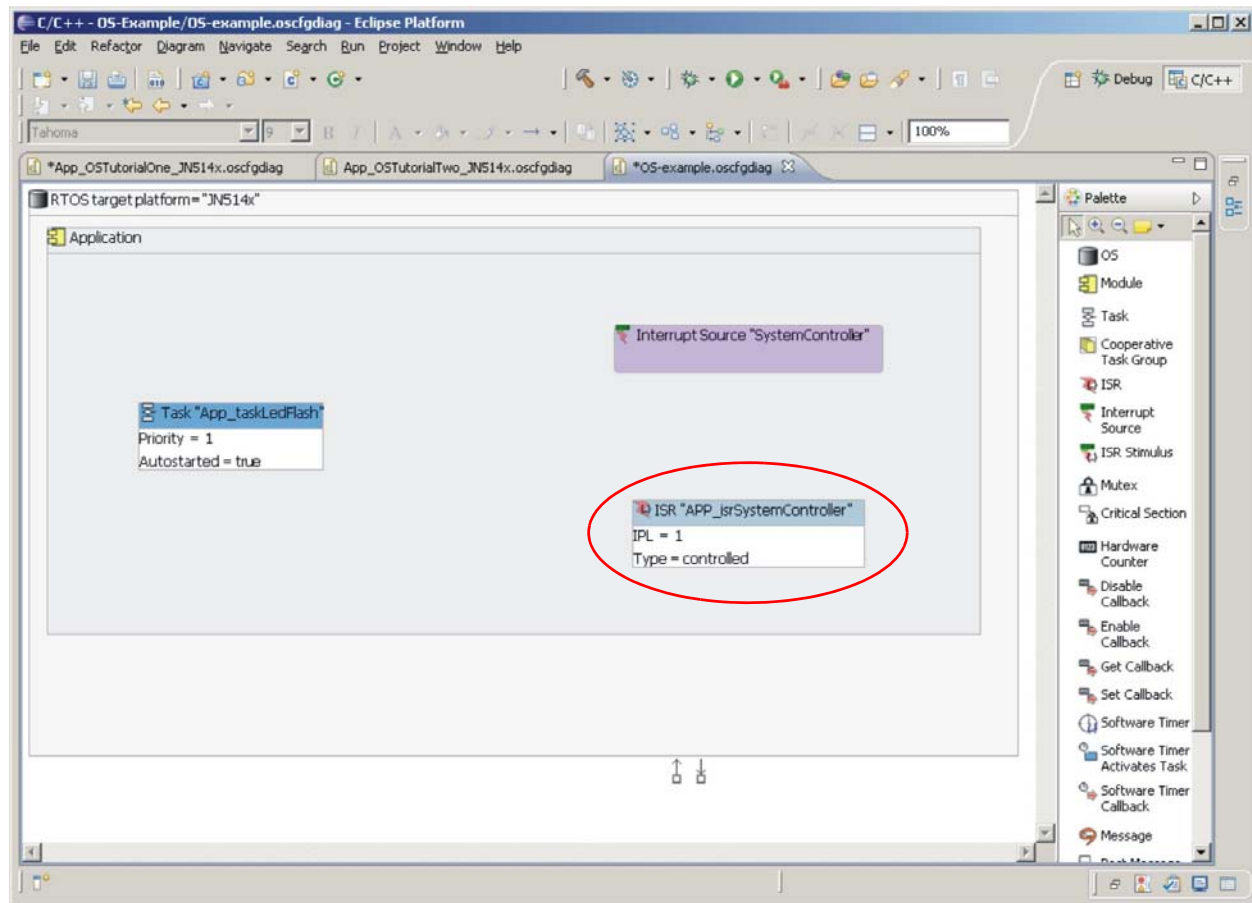

Figure 15: ISR Element
Step 4 Add an ISR to the diagram as shown in Figure 15 below.